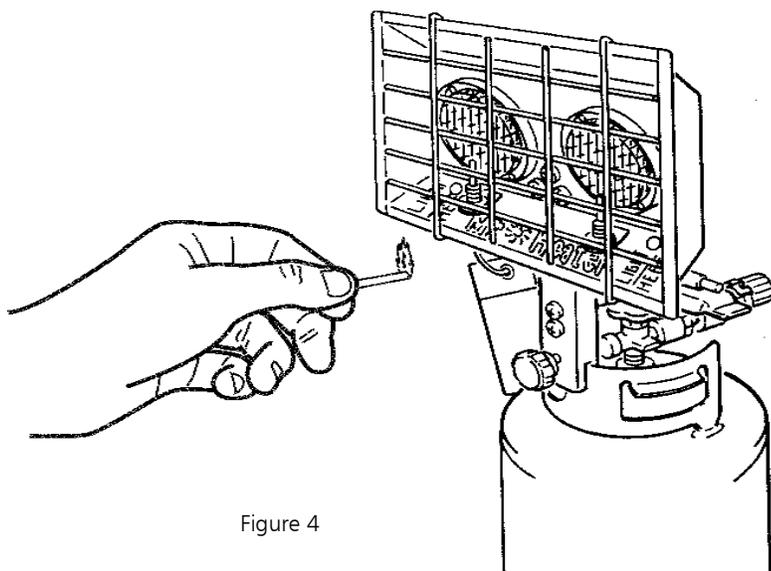

Figure 4
- D. To light a burner, MH24T Model, place a lit match across the mesh screen where you see "light here" on reflector. (See fig. 4) THEN push in valve button on Safety Shutoff Valve. After the burner is lit, continue to hold valve button in for 30 seconds, then release the button slowly. **CAUTION: DO NOT PUSH IN VALVE BUTTON BEFORE INSERTING LIT MATCH.** Repeat step "D" for each burner.
- B. When shutting off the heater, turn the regulator knob on the heater to "OFF" (clockwise). (See Figure 4 and 4a)